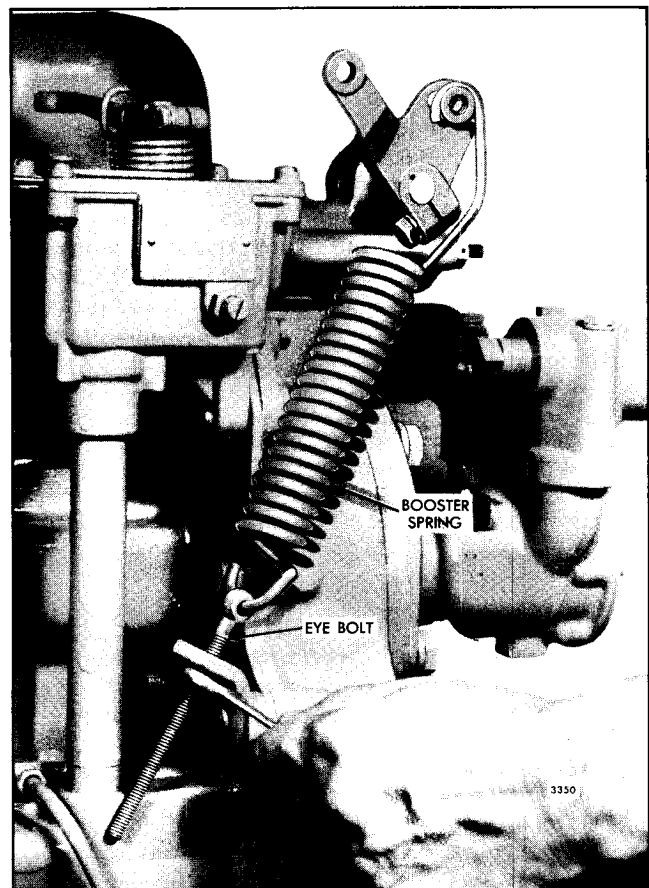

Fig. 8 - Adjusting Booster Spring
- Refer to Fig. 8 and disconnect the booster spring and the stop lever retracting spring.
2. Refer to Fig. 8 and loosen the booster spring retaining nut on the speed control lever. Loosen the locknuts on the eyebolt at the opposite end of the spring.